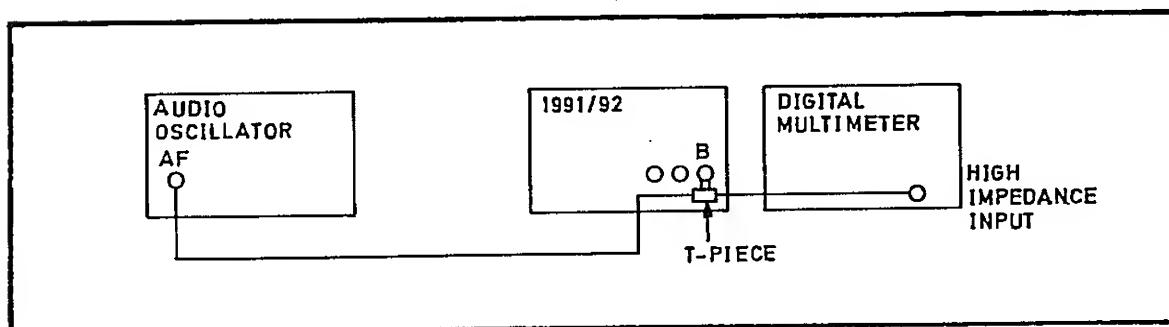

Fig 7.18 Connections for Channel B Sensitivity PVP
49 (1) Connect the test equipment as shown in Fig 7.18.
(2) Set the signal generator output to the frequencies shown in Table 7.7 in turn. Set the 1991/92 resolution to the corresponding value. Enable the 50 kHz filter.
(3) At each frequency, determine the minimum input level to the 1991/92 which gives stable counting. Verify that this is not more than the level shown in the table.
(4) Press **2** **0** **SHIFT** **STORE** **SF** **SHIFT** **SF**
(5) Disable the 50 kHz filter. Disconnect the test equipment.